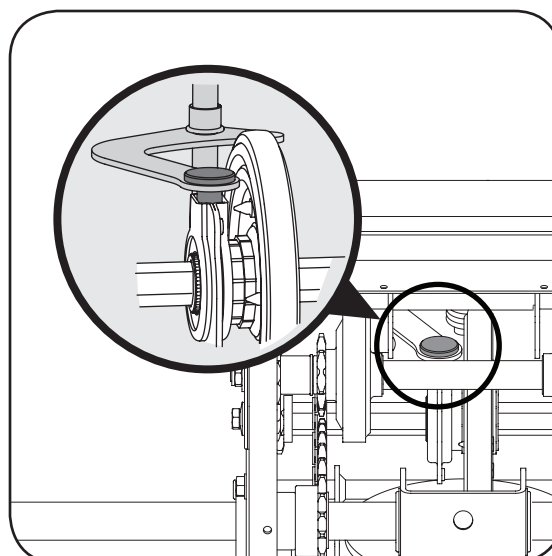

Figure 34
- Insert the pin from the shift arm assembly into the friction wheel assembly and hold assembly in position. Refer to Figure 34.